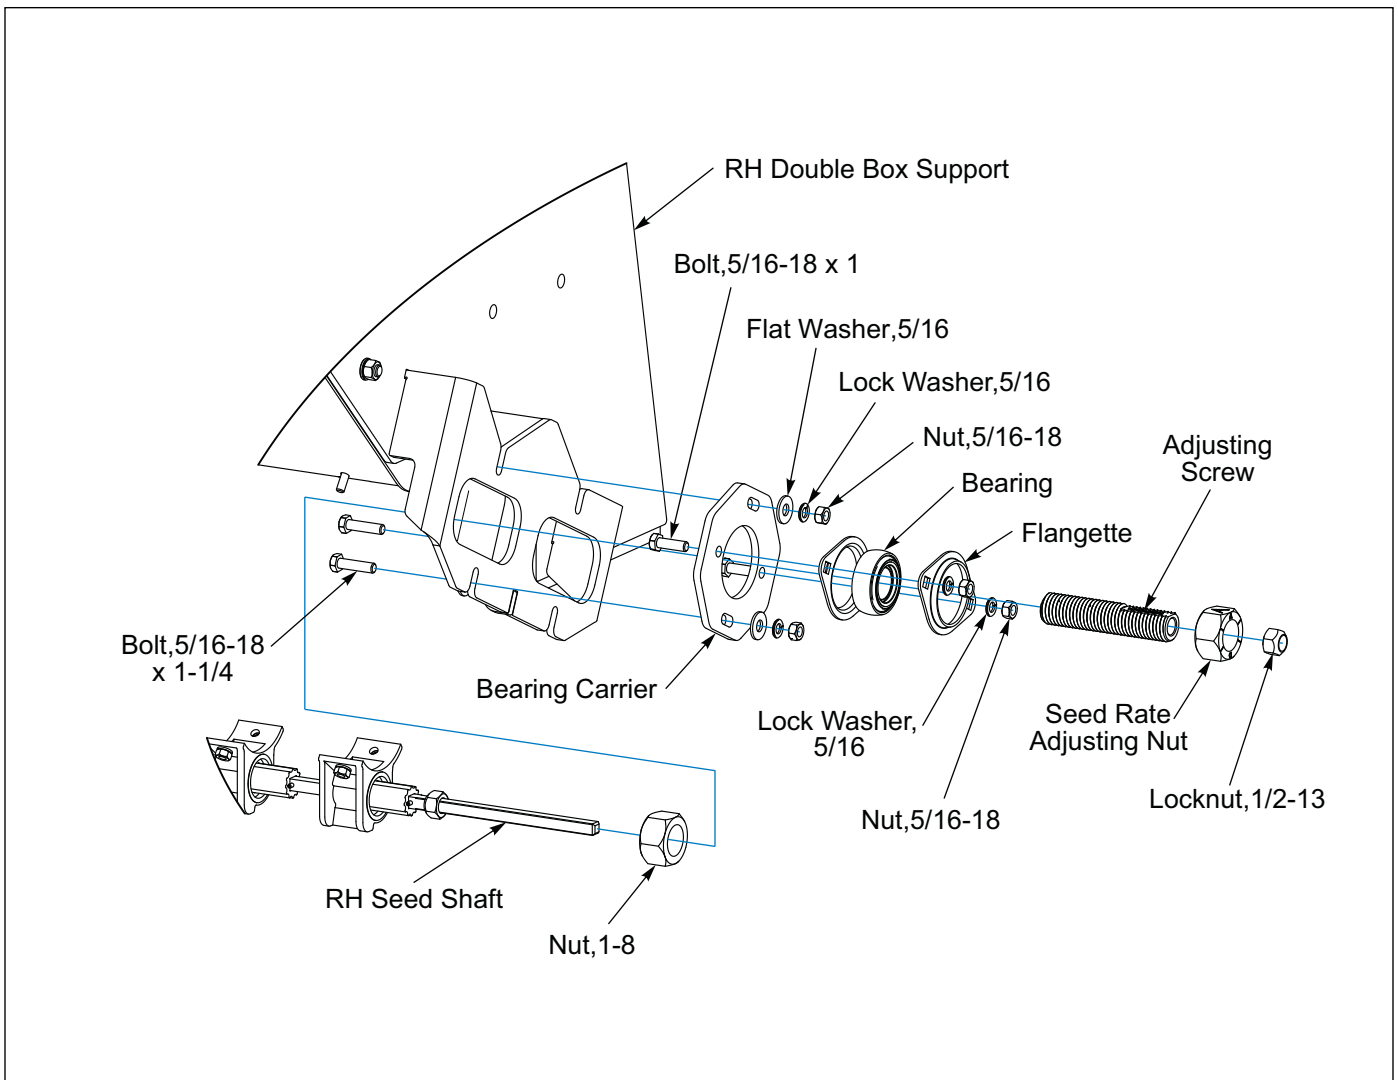

Figure 2-45: Rear Box RH End Assembly
24. Install Bearing Carrier onto RH Double Box Support with 5/16-18 x 1-1/4 Bolts, Flat Washers, Lock Washers and Nuts. **See Figure 2-45.**